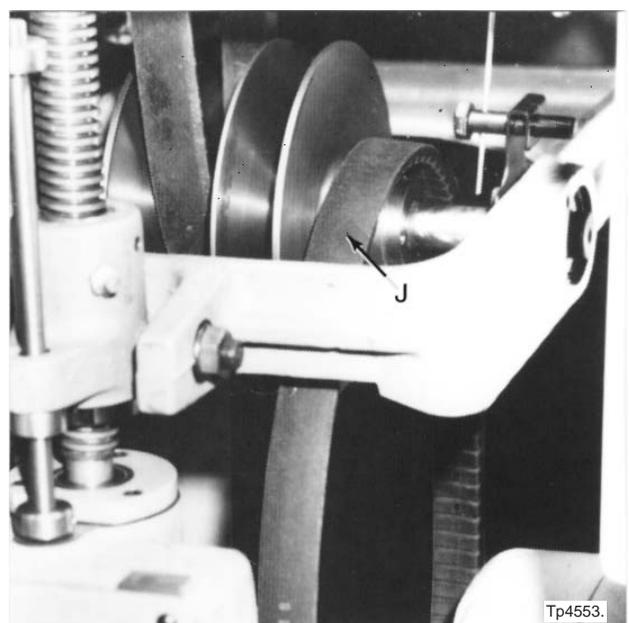

Figure 6.6 - Motor Belt on Pulley Hub
12. Roll motor belt "J", Figure 6.6, to the right off the pulley and let it rest on the pulley hub, as shown.